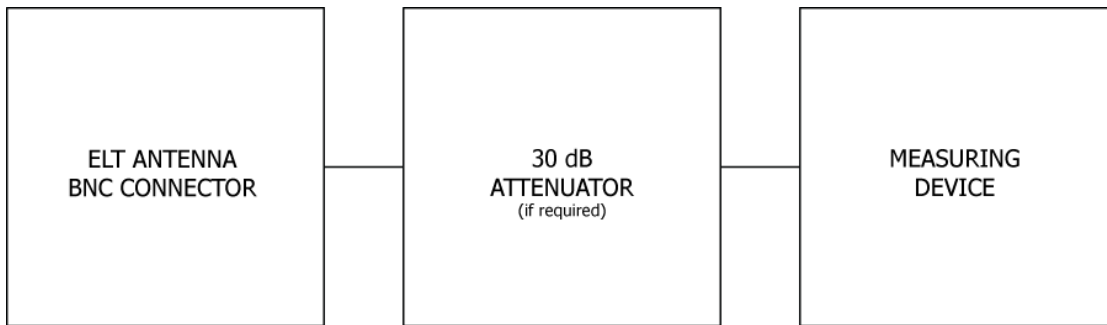

Figure 6 Performance Test Setup
- 3) For final airworthiness verification, use the ELT's own battery pack as the power source for these measurements. An alternate power source can be used where lengthy servicing, other than the performance tests, is anticipated. Expired battery packs can be used if the airworthiness performance of the battery pack in the system is not required. The battery packs are capable of at least fifty (50) hours of operation at the end of six years of useful life.
- 4) To prevent damage to the measurement equipment from the 5W, 406 MHz burst, install an RF attenuator (rated 50 ohm) between the ELT antenna output and the measurement equipment. Typical attenuation is 30 dB, 50 ohms, and rated at 5 watts for 1/2-second duration (see Figure 6 Performance Test Setup).
- 1) Connect the measuring device as specified in Figure 6 Performance Test Setup.
- 1) Connect the measuring device as specified in Figure 6 Performance Test Setup on page 27.